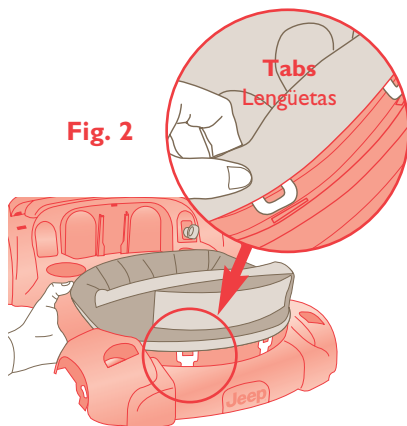

Fig. 2
Step 2. Place seat pad into seat ring located on tray. Align it so that the highest point of the seat pad aligns with back of walker ring (Figure 2).
Step 3. Insert the 8 round tabs on the seat pad into slots located around the seat ring (Figure 2).
Step 4. Slide tabs through holes (Figure 2).